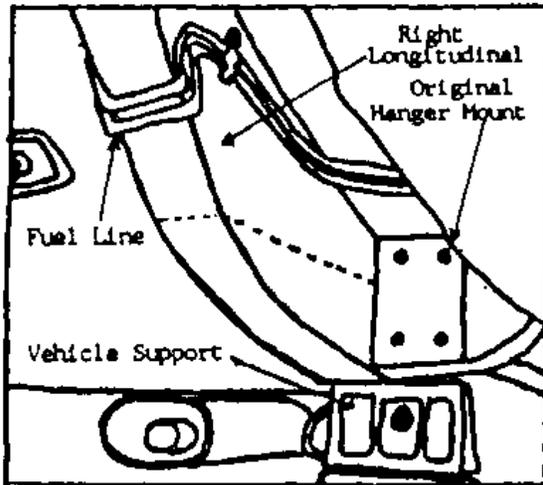

Figure 1
3. Make template of new boxes and lay this along side longitudinal as close to floor as possible and as far forward as possible. Etch the outline of template onto longitudinals. See Fig. 1.